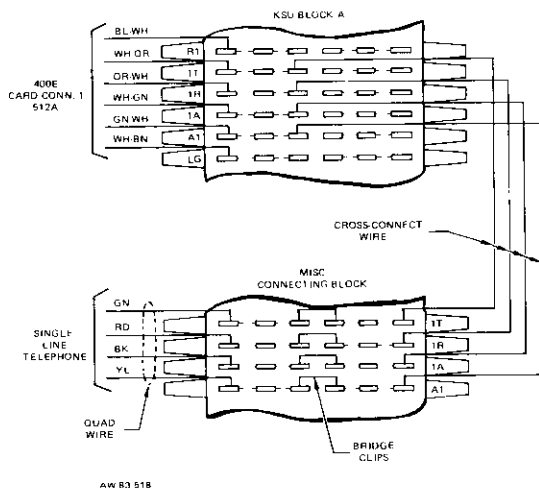

Figure 9: Connecting Details, Line KTU to Single-Line Station
4.16 For a single-line telephone used as a line answering station, cross-connect the T, R, A, and A1 terminals on the KSU connecting block to the corresponding terminals on the MISC connecting block. Use bridge clips to complete the connections to the single-line telephone. (Refer to Figure 9.)